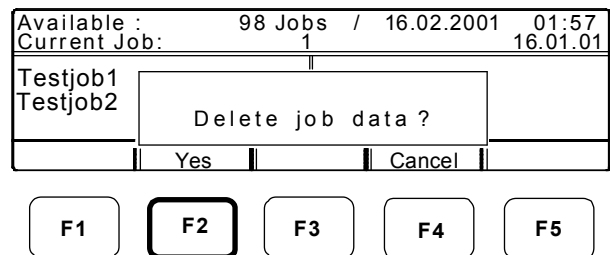

Figure 14-12. Job-Management Menu with Message
2. Press F4 (Delete) to delete the job. The “Delete job data?” message displays (Figure 14-12).